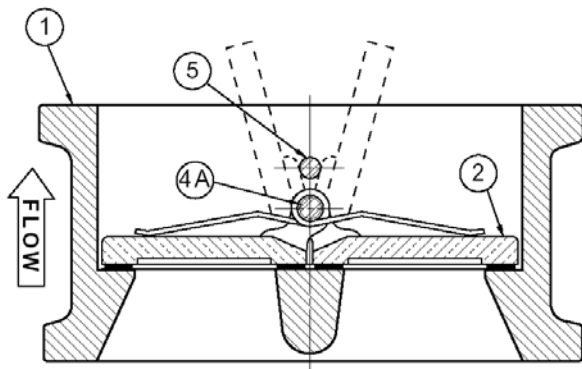

FIGURE 3. DUAL DISC® CHECK VALVE
The standard check valve body (1) is constructed of cast iron. See the specific Materials List submitted for the order if other than standard iron construction. The internal metal components are bronze or stainless steel. The discs (2) and torsion spring (3A and 3B) are the only moving parts and require no maintenance or lubrication. The general details of construction are illustrated in Figure 3.